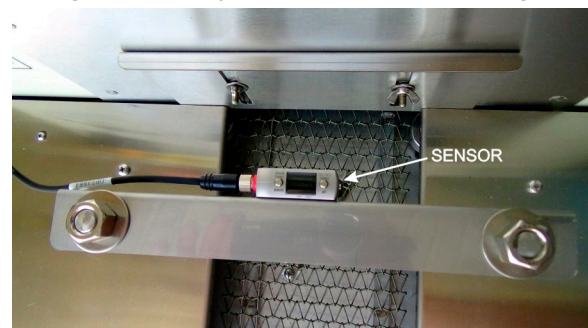

Figure 2-25 Install SENSLAS sensor over center of product lane
3. If sensor is not already attached to bracket, install sensor to bracket using supplied fasteners. Adjust to center laser over product lane and tighten. See single lane example in Figure 2-25.